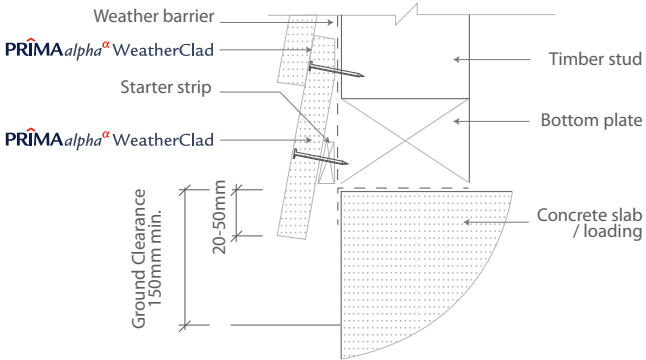
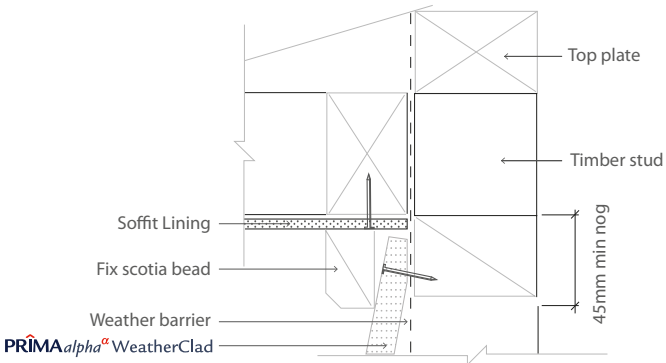

Figure 85: Foundation Detail
Figure 86: Soffit Detail
Provide a minimum of 150mm ground clearance between the bottom edge of **PRIMAalpha** WeatherClad (or starter strip) and the earth as shown in **Figure 85**. The plank must be overhang at the bottom plate on a concrete slab by 20- 50mm. Maintain a minimum of 50mm clearance between **PRIMAalpha** WeatherClad and roofs and decks, refer **Figure 86**.
7. Fix the first siding starting from external corner. Fasten the bottom edge of the siding to each stud or bottom plate through the starter strip, refer Figure 85.